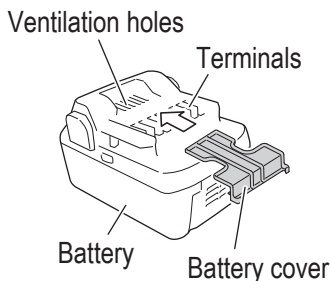

Fig. 2
- Either install the battery in the power tool or store by securely pressing into the battery cover until the ventilation holes are concealed to prevent short-circuits (See Fig. 2).